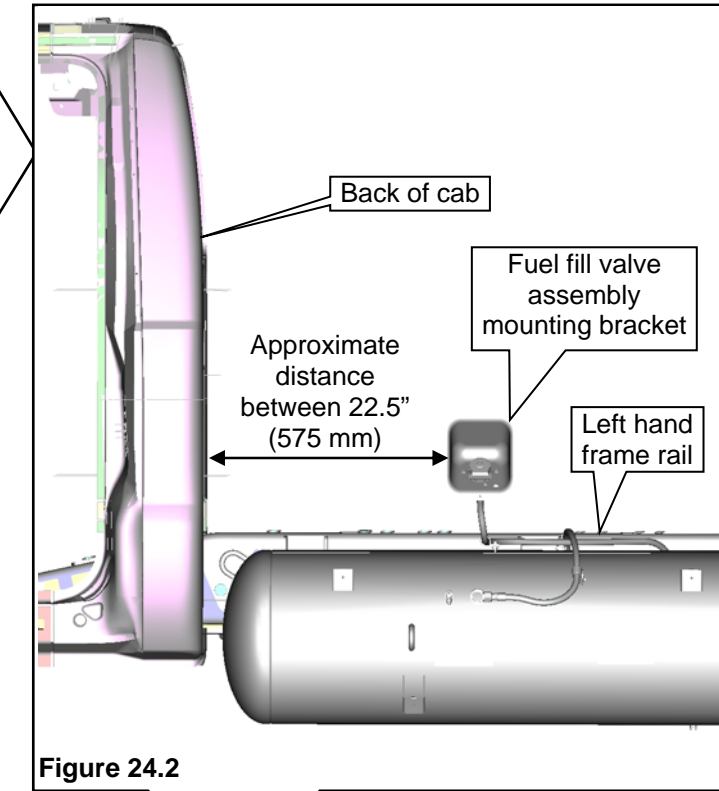

Figure 24.2
10. Measure 22.5" (575 mm) from the back of the cab to establish the fuel filler assembly mounting bracket location. **Figure 24.2.**